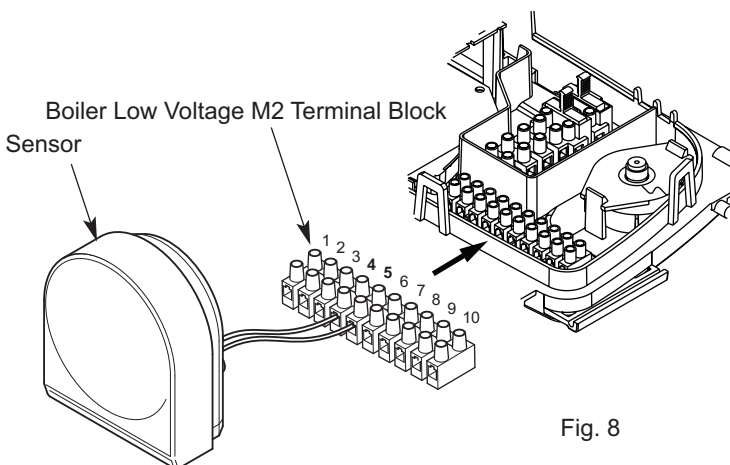

Fig. 8
3. Connect the wires from the Outdoor Sensor to the installer side of M2 terminals 4 and 5 (Fig. 8).